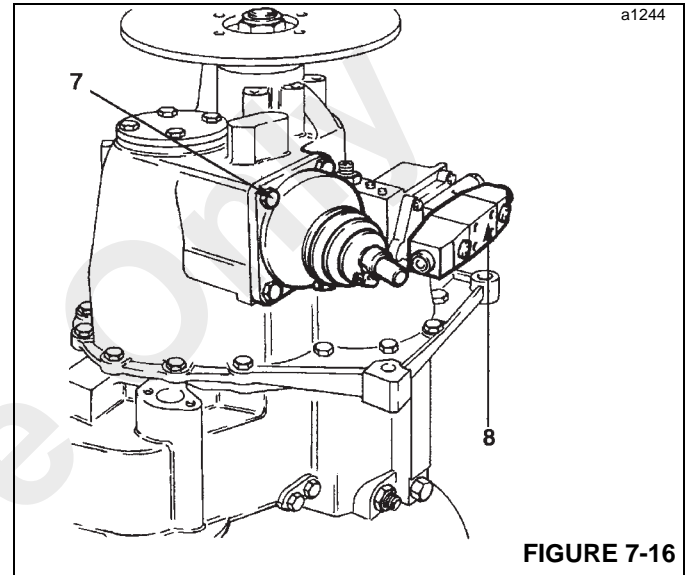

FIGURE 7-16
7. Position transmission vertically, standing on the face of the flywheel housing. Remove gear lever turret by removing bolts (7, Figure 7-16).
8. Unscrew capscrews and remove selector valve (8).